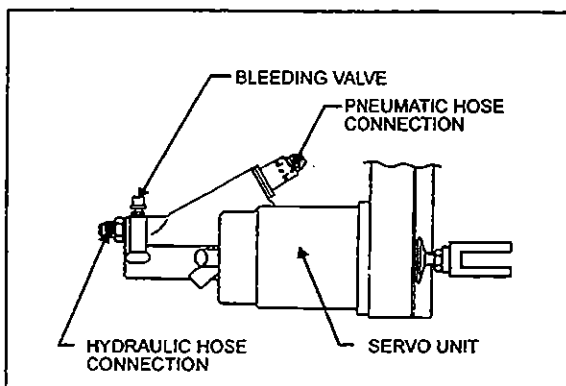

Figure 6: Servo Unit
2. Attach a plastic tube to the bleeding valve (Fig. 6). Dip the other end of the tube in a jar containing several inches of clean brake fluid.
2. Slightly loosen teflon flexible hydraulic hose connector from adaptor mounted on extremity of servo unit (Fig. 6).